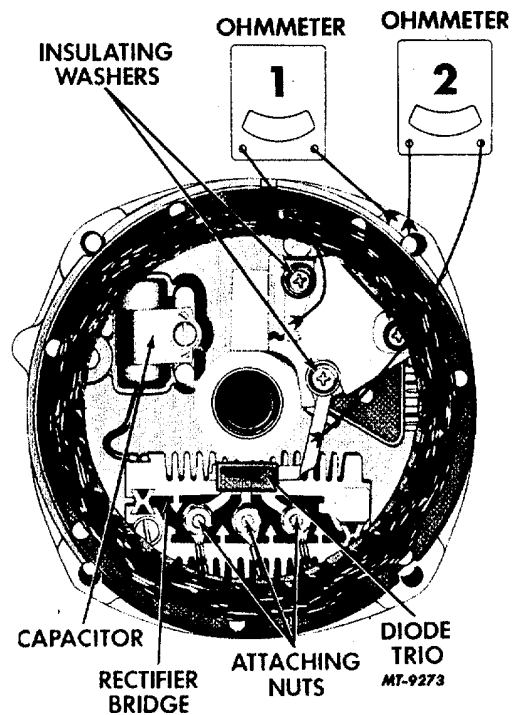
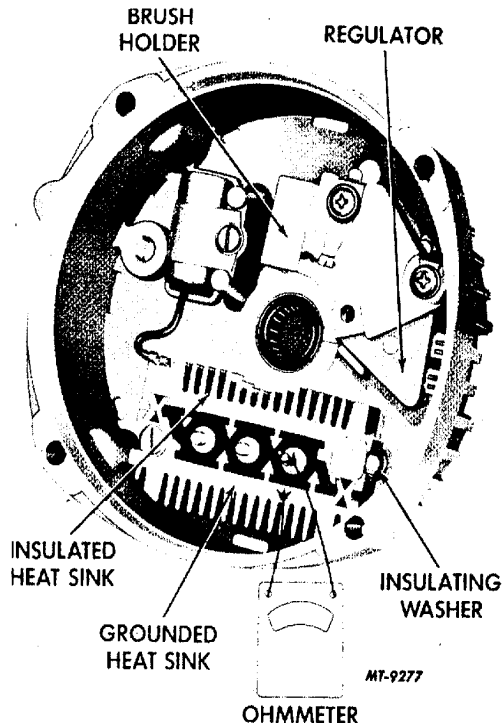

Fig. 5 Inside View of End Frame
Fig. 8 Rectifier Bridge Check
- b. Connect ohmmeter using lowest range scale from brush lead clip to end frame as shown in Step 1, Fig. 5, then reverse lead connections.
- d. A grounded brush lead clip can result from omission of insulating washer, Fig. 5, omission of insulating sleeve over screw, or damaged insulating sleeve. Remove screw to inspect sleeve. If satisfactory, replace regulator.
The diode trio is identified in Fig. 5. First connect an ohmmeter using lowest range scale from brush lead clip to end frame as shown in Step 2, Fig. 5; then reverse lead connections. If both readings are the same, check for grounded brush lead clip caused by omission of insulating washer, Fig. 5, omission of insulating sleeve over screw, or damaged insulating sleeve. Remove screw to inspect sleeve. If screw assembly is correct and both ohmmeter readings are the same, replace regulator.
NOTE: Figs. 5 and 7 illustrate two diode trios differing in appearance. Either one of these diode trios may be used in these alternators, and the two are completely interchangeable.
Note that the rectifier bridge has a grounded heat sink and an insulated heat sink connected to the output terminal. Also note the insulating washer located between the insulated heat sink and end frame, Fig. 8
To check the rectifier bridge, connect the ohmmeter to the grounded heat sink and one of the three terminals, Fig. 8. Then reverse the lead connections to the grounded heat sink and same terminal. If both readings are the same, replace the rectifier bridge. A good rectifier bridge will give one high and one low reading. Repeat this same test between the grounded heat sink and the other two terminals and between the insulated heat sink and each of the three terminals. This makes a total of six checks with two readings taken for each check. NOTE: If rectifier bridge is constructed as shown in Fig. 9, check with the rectifier bridge mounted in the end frame in the same manner as Fig. 8--except connect ohmmeter pressing down very firmly onto flat metal connector and not onto threaded stud, Fig. 9.
To replace the rectifier bridge, remove the attaching screw and the "BAT" terminal screw and disconnect the capacitor lead. Note the insulator between the insulated heat sink and end frame, Fig. 8. Rectifier bridges may vary in appearance but are completely interchangeable in these alternators.
After removing the three attaching nuts, the stator and diode trio screw, Fig. 8, the brush holder and regulator may be replaced by removing the two remaining screws. Note the two insulators located over the top of the brush clips in Fig. 5 and that these two screws have special insulating sleeves over the screw body above the threads. The third mounting screw may or may not have an insulating sleeve. If not, this screw must not be interchanged with either one of the other two screws, as a ground may result causing no output or uncontrolled alternator output. Regulators may vary in appearance but are completely interchangeable in these alternators